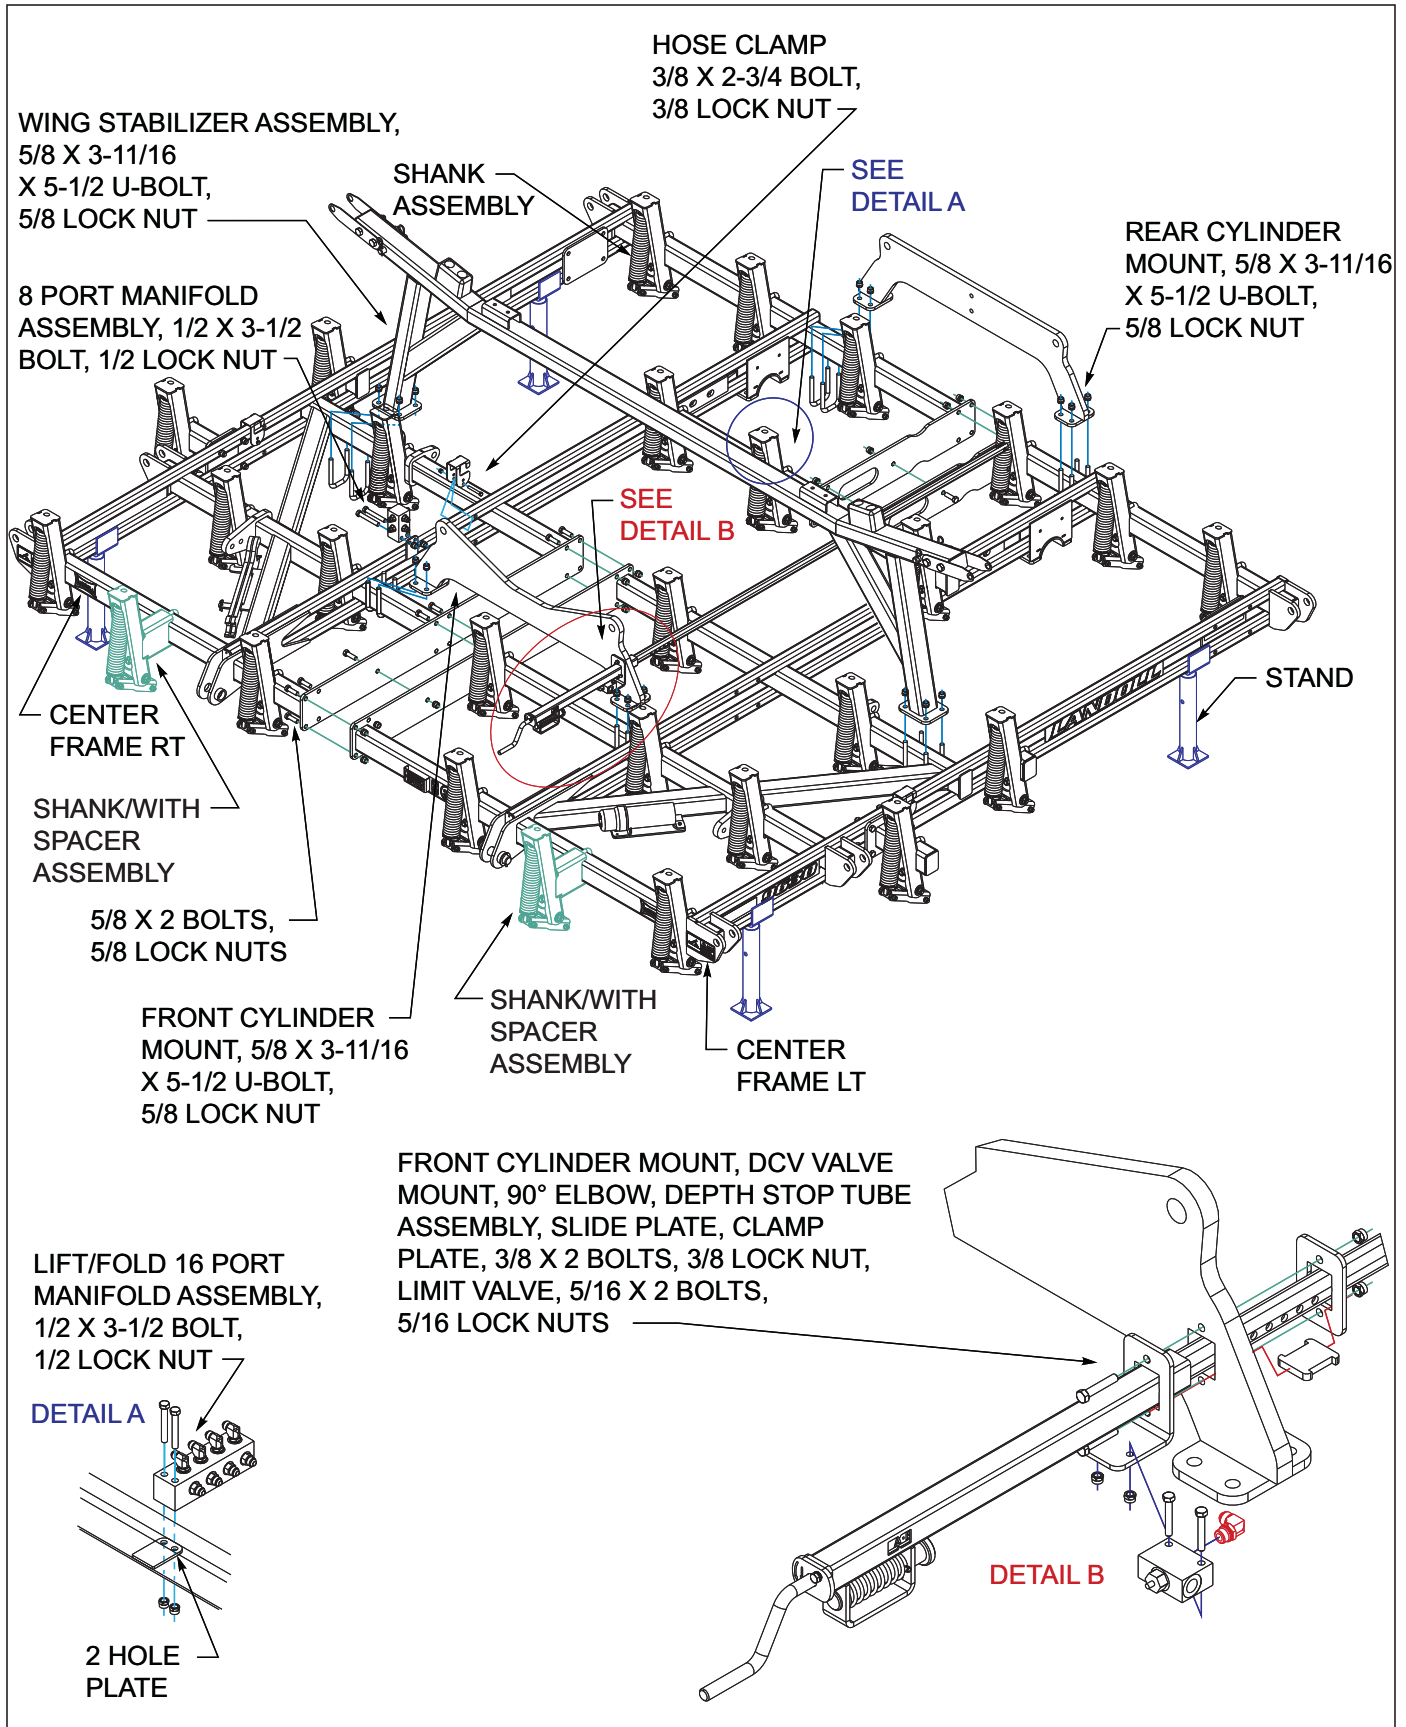

Figure 3-1: Center Frame Assembly
1. Place the two center frame halves next to each other on the ground and bolt together using 5/8 x 2" bolts and lock nuts *See Figure 3-1*.
10. Install the 8 port manifold assembly to 2 hole plate toward front of center frame assembly with 1/2 x 3-1/2 bolts and 1/2 lock nuts *See Figure 3-1*.
12. Attach the hose clamps to center frame with 3/8 x 2-3/4 bolt and 3/8 lock nut *See Figure 3-1*. (*See "Hydraulic Installation" on page 3-14.*) for more location of hose clamps.